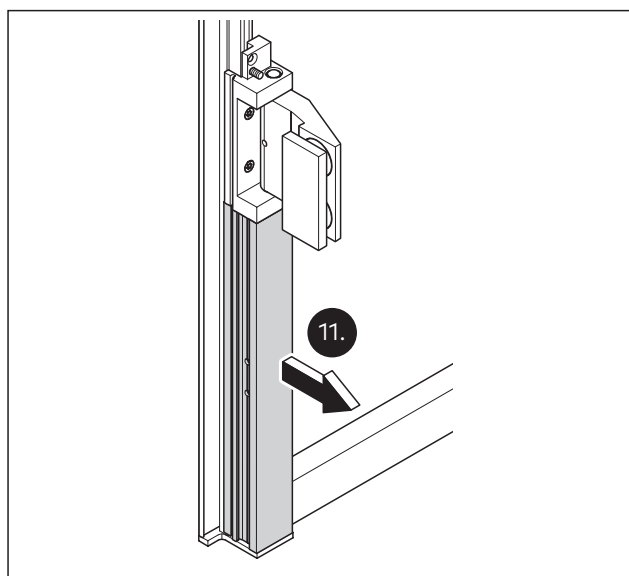

Fig. 38 Remove the cover profile for the door frame
11. Remove the cover profile for the door frame (Fig. 38)